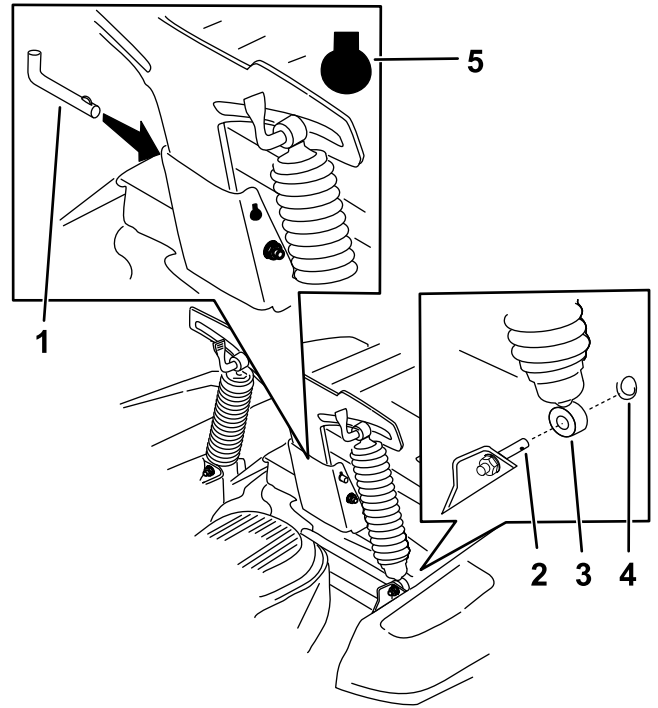

Figure 2
3. Place the ends of the springs on the posts (Figure 2).
4. Secure the springs to the posts with the 2 round clips (Figure 2).
5. Install the pin into the back by using the indexed key slot (Figure 2).